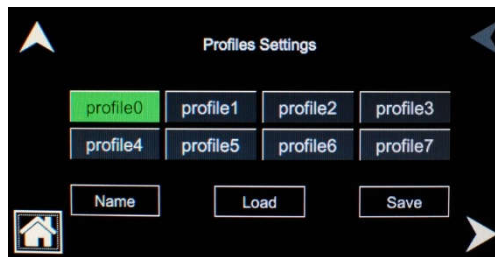

Figure 7-6. CONFIGURATION Menu, PROFILES Selection
3. Tap on one of the fifteen PROFILE_x buttons (x = 0 to 14) to select it; refer to Figure 7-6.